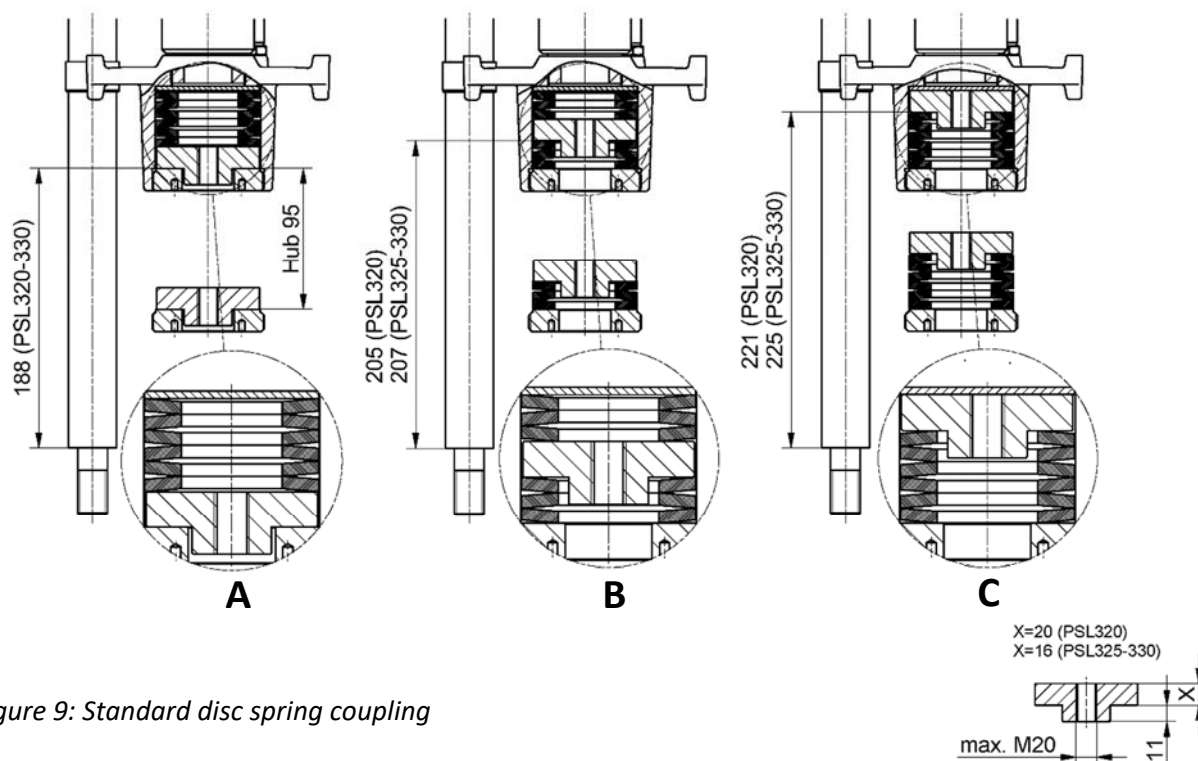

Figure 9: Standard disc spring coupling
- Unscrew the locking nut (item 5) from the spindle nut (item 1) and slide it over the valve stem (item 9).
- See if the bore of the coupling piece (item 3) fits to the valve stem. If necessary, rebores and/or recut the thread.
- Slide or screw the coupling piece onto the valve stem and bore or pin to the valve stem. You may also secure the coupling piece by using a counter nut (item 4) (Lay the disc springs according to *Figure 9* on page 12).
- Slide the pillars into the bore holes of the mounting bracket (item 6) and tighten with the pillar nuts (item 7).
- A: Arrangement for a through-valve with "Valve stem retracting" as direction of closing (*Figure 9*).
- B: Arrangement for a 3-way valve (*Figure 9*).
- C: Arrangement for a through valve with "Valve stem extending" as direction of closing (*Figure 9*).